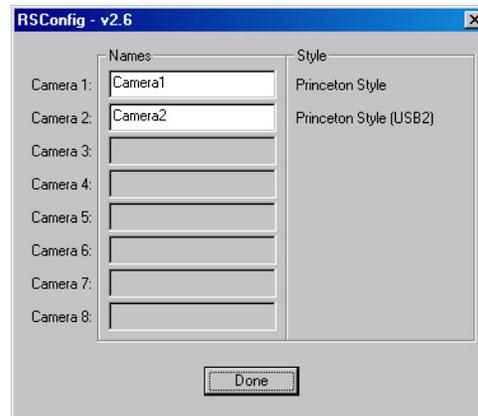

Figure 55. RSConfig dialog box: Two Camera Styles
4. When the RSConfig dialog box (Figure 55) appears, you can change the camera name to one that is more specific or you can keep the default name "Camera2". When you have finished, click on the **Done** button.